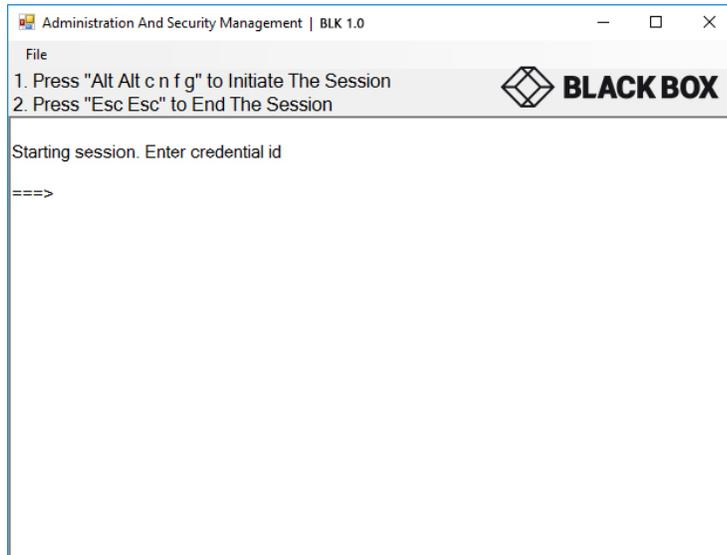

Figure 2: Initiate Session Capture
- Figure 2 below is a screenshot of the tool you should be seeing on your screen.